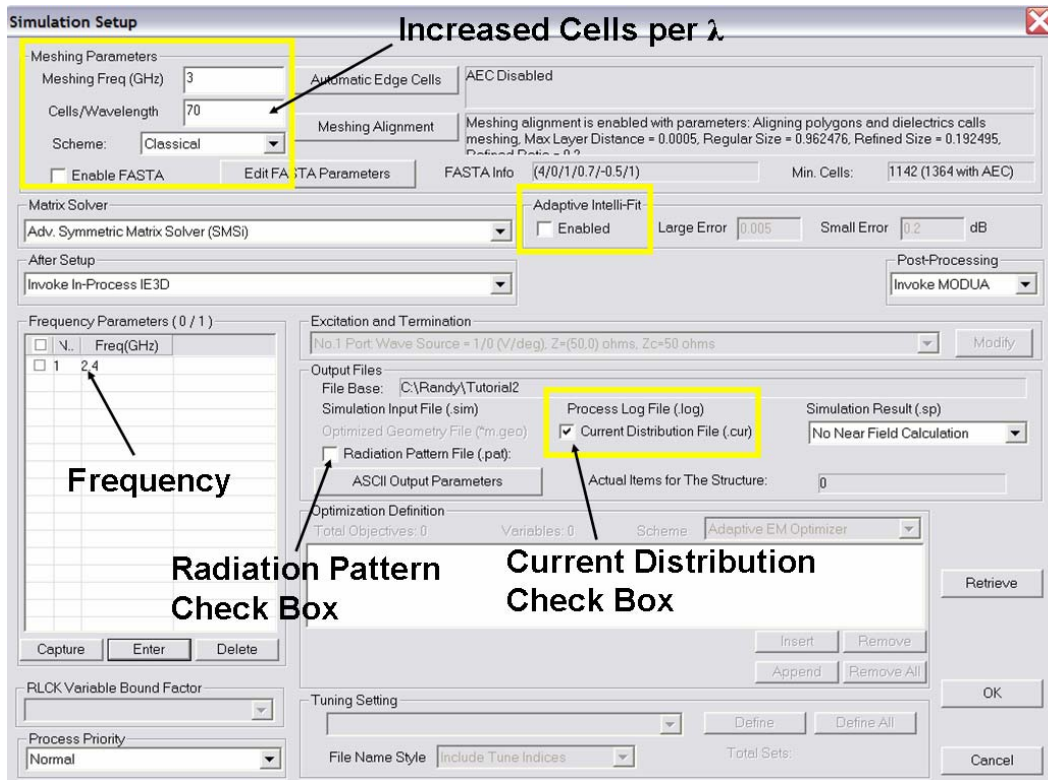

Figure 24.
28) Start by pressing the simulation button . This time, instead of simulating the structure from 1 GHz to 3 GHz, we will only simulate it at 2.4 GHz, which is the frequency of operation of the antenna. Enter 2.4 GHz as the frequency of simulation in the “Frequency Parameters” field. Also, increase the number of cells per wavelength to 70 from 30 and enter this new number in the “Meshing Parameters” field, as shown in Figure 24. Make sure that the “Current Distribution File” check box is checked and uncheck the “Adaptive Intelli-Fit” Check Box. Also make sure that the “Radiation Pattern File” check box is not checked. If you check this box, IE3D calculates the radiation pattern of the structure. However, we will first examine the current distribution on the surface of the antenna and then we will calculate the radiation patterns of the structure from the calculated current distribution of the antenna. Your simulation setup window should look like the one presented in Figure 24. Press OK to simulate the structure. Note that it will take a considerably longer time to simulate the structure compared to the last time where we had only 30 cells per wavelength.